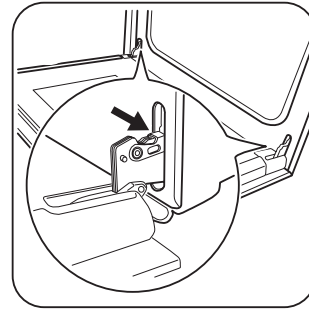

Figure 22: Door hinge location
1. Open the door fully, horizontal with the floor, and hold the two door hinges (Figure 22).
3. Fully open the oven door, horizontal with floor (Figure 22).